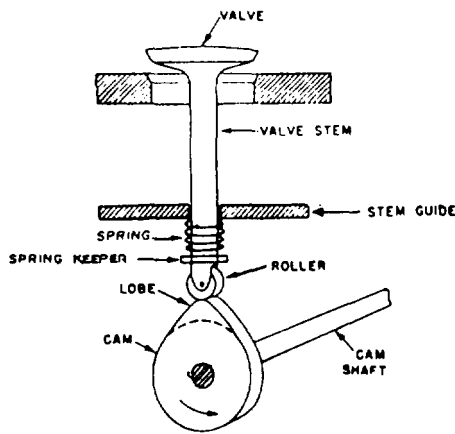

Figure 3E
- 3-55. The function of the spring in figure 3E is to
- 3-71. When the valve of figure 3E is not being lifted by the cam lobe, the cam roller is held in contact with the edge of the cam by the